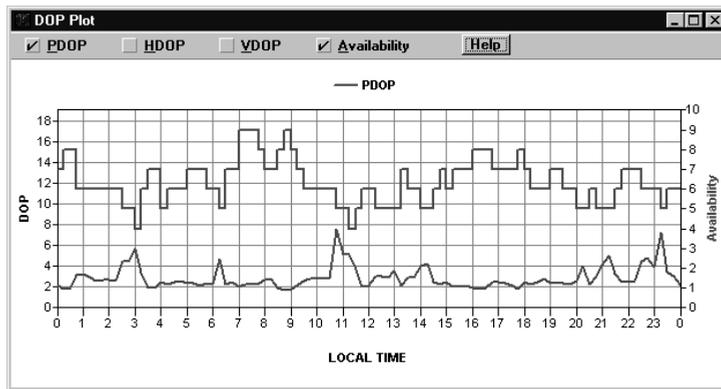

Figure A.10. DOP Plot
2. The **DOP Plot** window opens for the selected site, the selected date, and the selected time (Figure A.10).